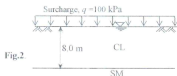

Fig.2
- 4(a). The time required for 50% consolidation of a 25mm thick clay layer (drained at both top and bottom) in the laboratory is 5 min. How long (in days) will it take for a 5.0m thick clay layer of the same clay in the field under the same pressure increment to reach 50% consolidation? In the field, there is a sand layer underneath the clay layer. Use, $T_v=0.197$ for 50% consolidation. (10) (CO2) (PO2)
- 4(b). Answer the following questions for a clay layer shown in Fig.2, $\gamma_{sat}=17.81 \text{ kN/m}^3$, $\gamma_w=9.81 \text{ kN/m}^3$, $C_c=0.35$, $C_u=0.05$, $e_0=0.90$ at the center of the clay layer, $C_v=5.0 \text{ m}^2/\text{year}$. (25) (CO2) (PO2)